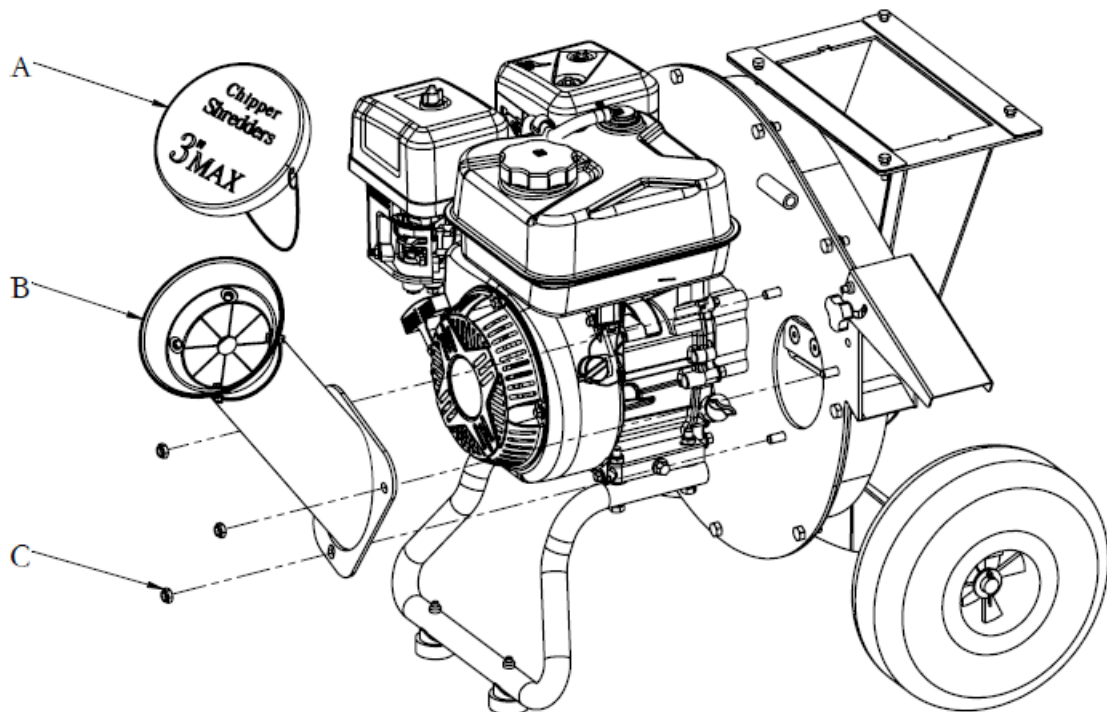

Figure 8
## Inspect Chipping Knives (See Figure 8)
2. Remove the nuts securing the chipper cone to the front of the chipper. Remove the chipper cone to access the knives. See figure 8.